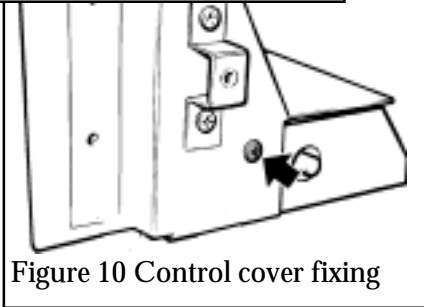

Figure 10 Control cover fixing
- 3) Detach the control unit cover by removing one screw (See figure 10).